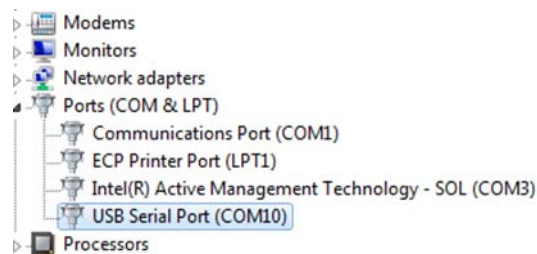

Figure 6-7: Windows Device Manager > Ports
4. After connecting the unit, the target PC should recognize the newly connected hardware and connect to it using the previously installed VCP FTDI drivers. Wait until this process is complete. Check the Windows device manager Ports section and note the newly added USB Serial Port (See **Figure 6-7**). You will need a COM port designator in the next step.